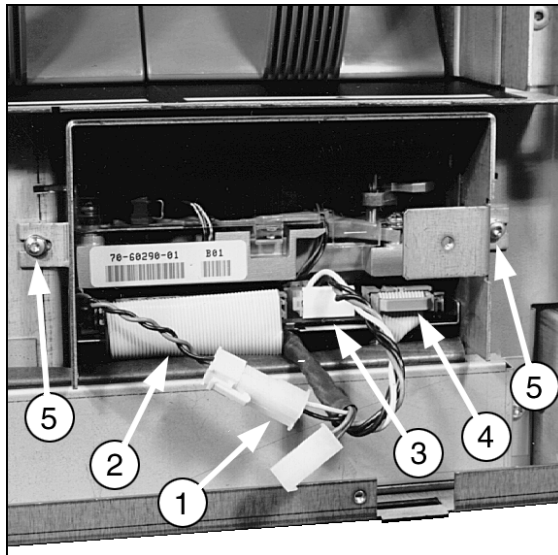

Figure 5-21. Drive Cabling and Mounting
6. (See Figure 5-21) Disconnect the cables for drive door solenoid (1), SCSI bus (2), drive power (3) and drive interface (4)
7. Remove the two T-15 screws (with cone washers) on each side of the drive mount assembly (one on each side). See Figure 5-21, (5).